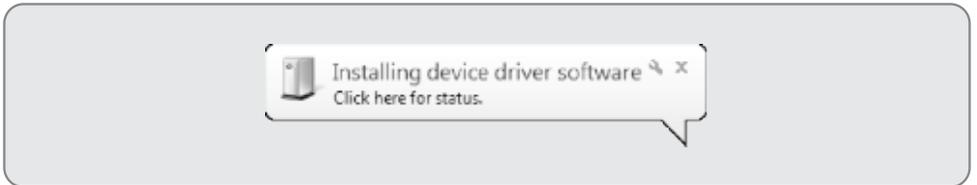

FIGURE 67.
4. The file must now be transferred to the GSM device to enable your device for USB programming, move the shunt provided so that it bridges 'USB' with the common pin, as shown in Figure 67.